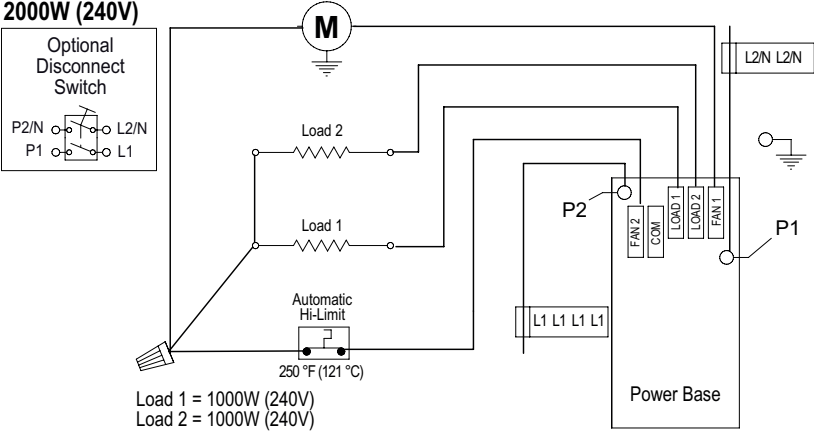

Fig. 5
- 10- Fix the plastic connector on the outlet located in the top of the front cover **(Fig. 5)**.